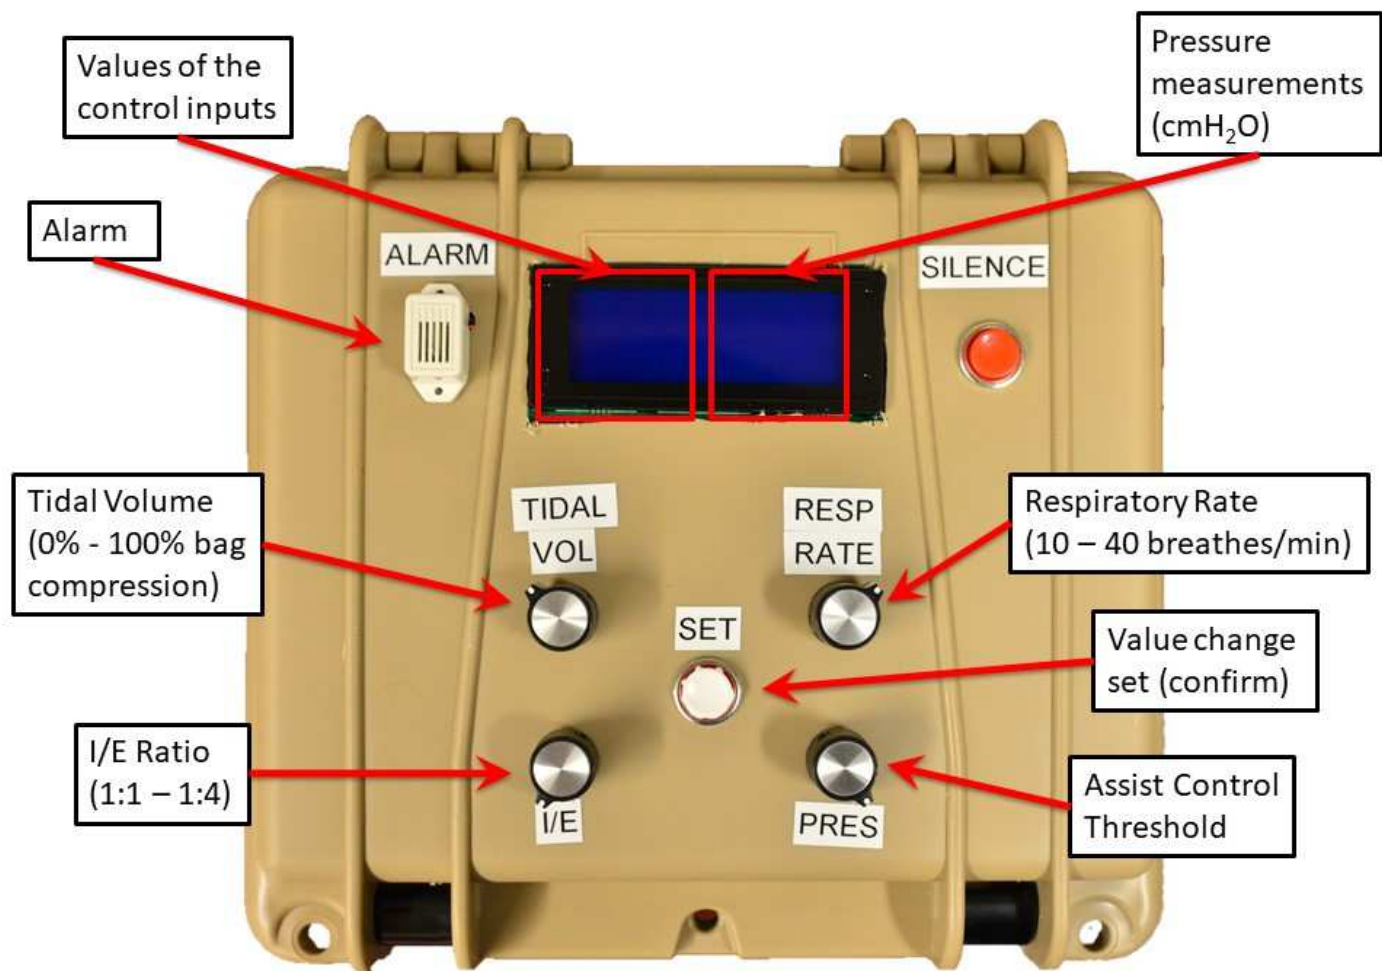
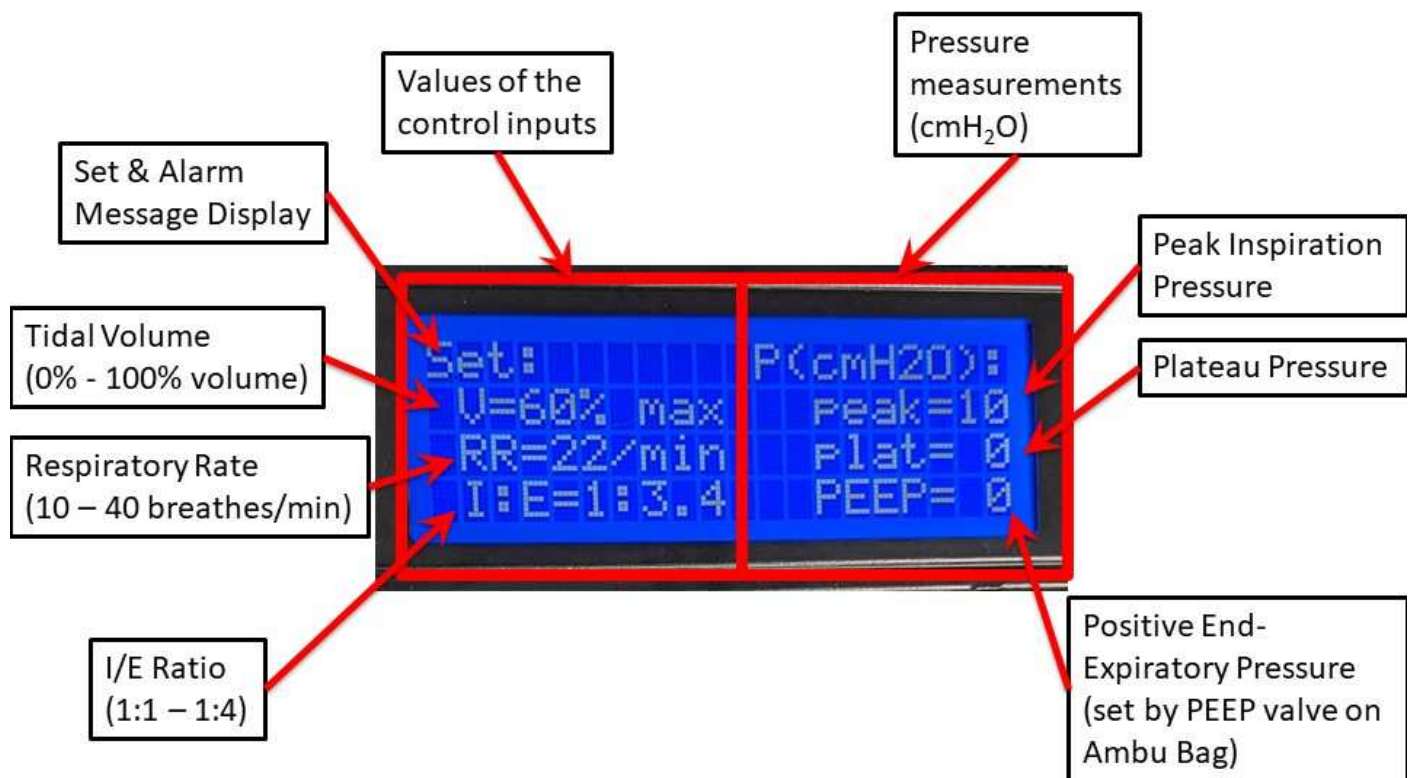

Figure 2. Control the ventilator and read pressure information from the top of the control box.
Figure 3. There are 6 pieces of information displayed on the LCD screen which update after each breath cycle. Alarm messages will display on the top bar.
3. Ensure that all dials shown in Figure 2 are turned counter clockwise to the lowest position.
6. Set the desired *Respiratory Rate*, *Tidal Volume* and *I:E* knobs, as shown in Figure 2, and confirm the values on the display, shown in Figure 3. Press the *Set* button to apply.